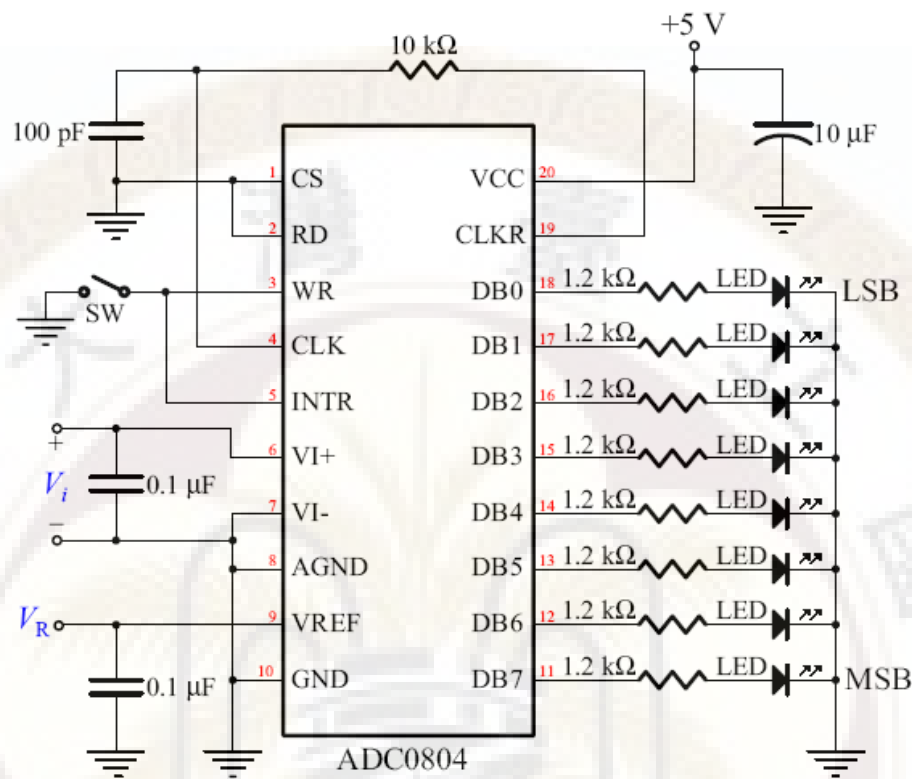

Fig. 1 ADC0804 Testing circuit
- (1) In Fig. 1, SW open. (i.e., do not connect pin 3 and pin 5 to ground.)
- (2) Supply voltage  $V_{CC} = +5\text{V}$ .
- (3) At step (2), all the LEDs or part of the 8-LED will turn ON. (亮)
- (4) SW close in a short period (i.e., reset the ADC0804 chip for a second).
- (5) SW open. (i.e., disconnect pin 3 and pin 5 from ground.)
- (6) At step (5), all the LEDs will turn OFF. (暗).